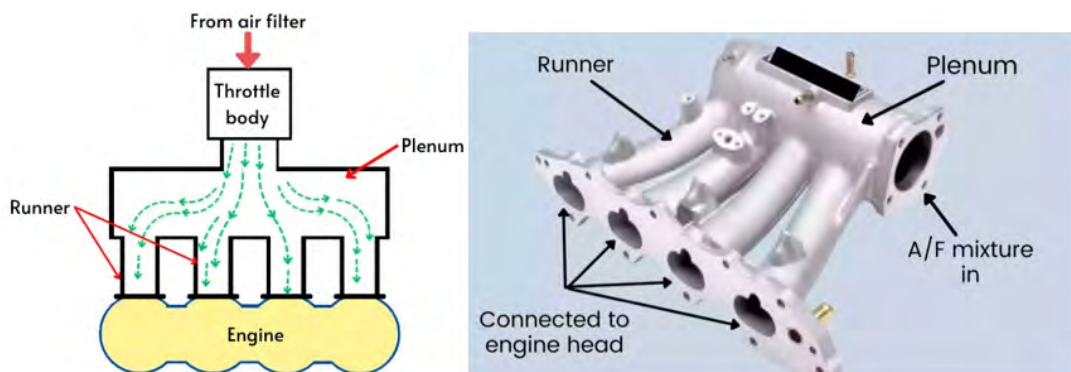

Figure 1.15: *Intake manifold*
4. **Intake Manifold**: The intake manifold also known as the inlet manifold, is the component used to deliver an equal proportion of intake charge to each cylinder of the engine. It delivers an equal amount of charge to all cylinders to get higher performance from the engine. In carburetted engines, it is connected between the carburettor and cylinder head while in fuel-injected engines, it helps to connect the throttle body to the cylinder head. See Figure 1.15.